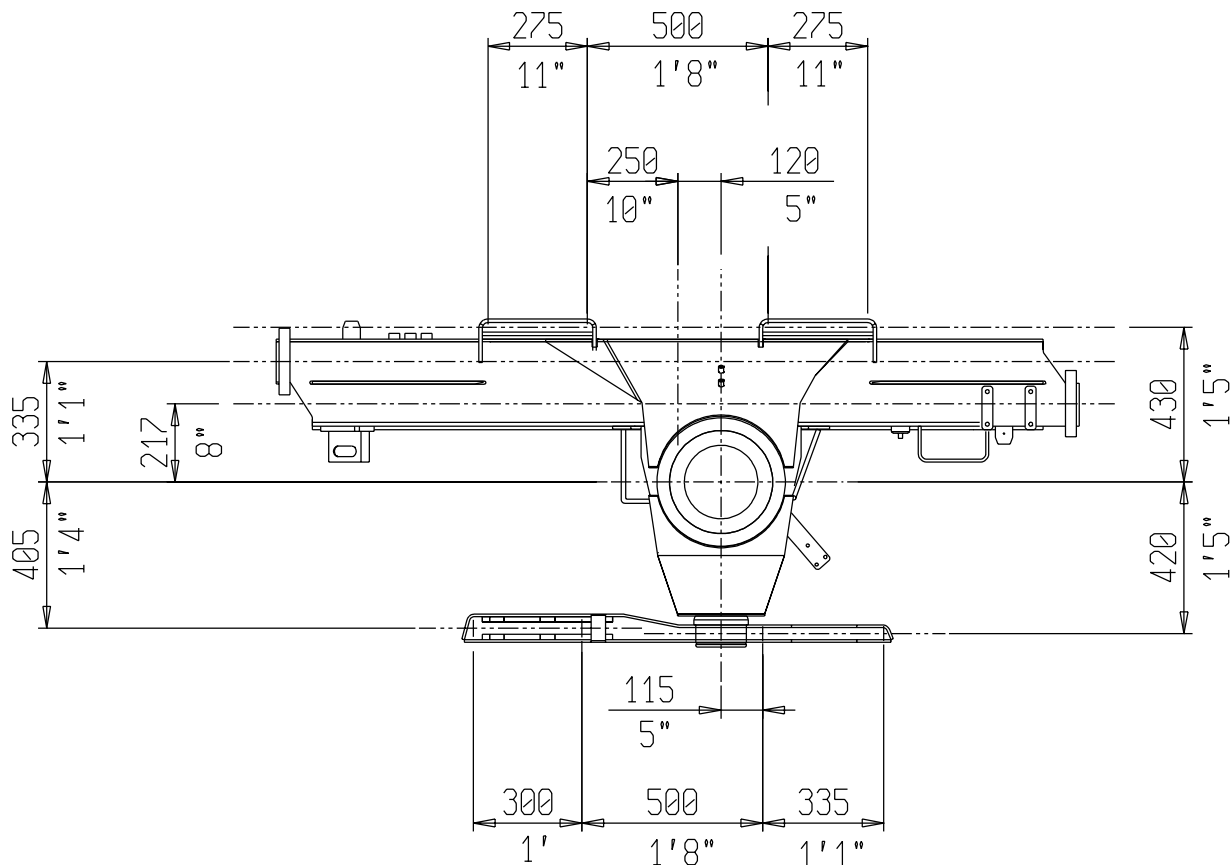

Fig.1-7
1.7.2 DIMENSIONI DI ANCORAGGIO (fig.1-7)
1.7.2 VERANKERUNGSABMESSUNGEN (Abb. 1-7)